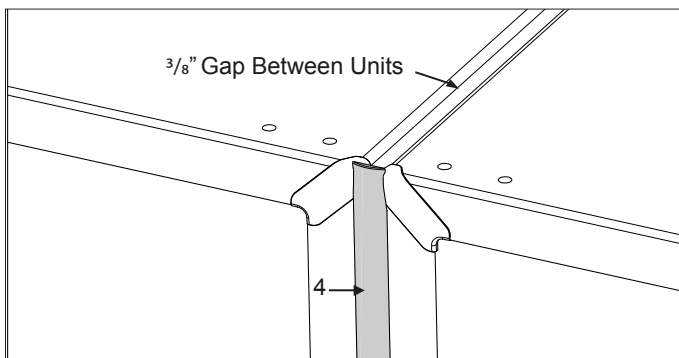

Figure 6
- b. Install center strip to insure the proper $\frac{3}{8}$ " gap is maintained between units. (See Figure 6).